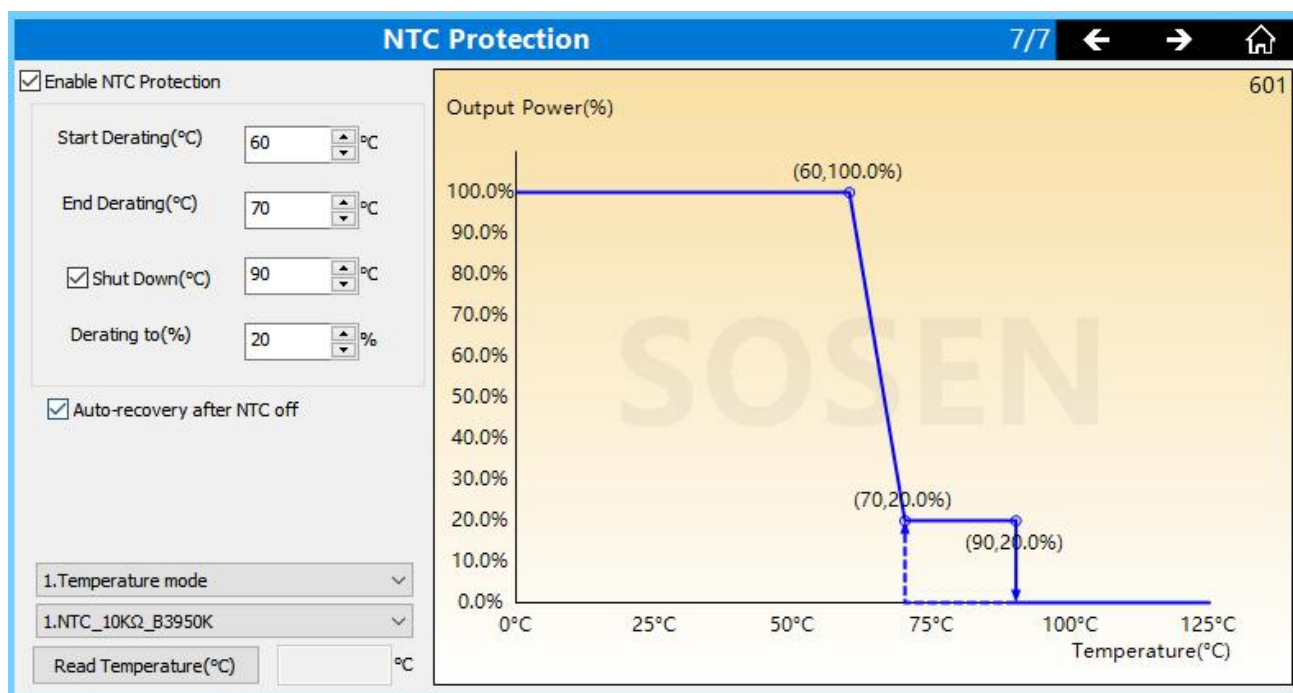
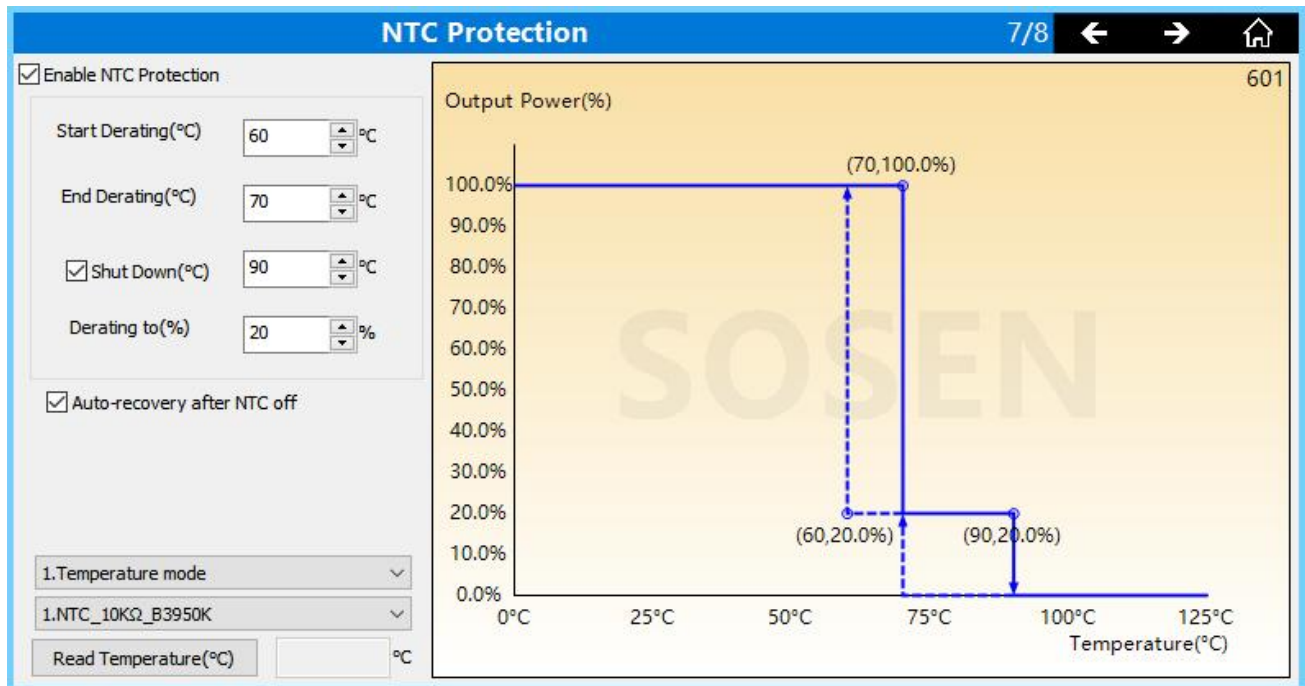

Figure 2
Figure 3
b.The NTC functions supported by the 3-in-1 model are shown in the functional interface shown in Figure 2 and Figure 3.This model supports two types of NTC logic, which can be selected on the Model Characteristics page.Models that support this feature include the 1200NP-M430BHN.
c. Running logic 1: According to "Model Characteristic Parameters" interface - "NTC running logic" option, select "Running logic 1", set the parameters as shown in Figure 2, as shown in the blue line, when the temperature is below 60°C, the output power is 100%; when the temperature is greater than 60°C and less than 70°C, the output power will run according to the slant line between 60°C and 70°C. As shown in the blue line, when the temperature is lower than 60°C, the output power is 100%; when the temperature is greater than 60°C and less than 70°C, the output power runs according to the slanting line between 60°C and 70°C, and the output power will be accompanied by the lowering and raising as the temperature increases and decreases; when the temperature is greater than 70°C, the output power will be reduced to 20% and kept at 20%; when the temperature is greater than 90°C, the output will be turned off; after NTC is turned off, you can choose to restore the output according to the checkbox option, and then the output will be restored. The output can be restored or not according to the checkbox option. In addition, setting the shutdown temperature to less than or equal to the temperature of the end derating or unchecking the shutdown option will turn off the shutdown function, neither shutdown.
d. Running logic 2: According to "Model Characteristic Parameters" interface - "NTC running logic" option, select "Running logic 2", set the parameters as shown in Figure 3, as shown in the blue line, when the temperature is lower than 70°C, the output power is 100%; when the temperature reaches or greater than 70°C, a derating